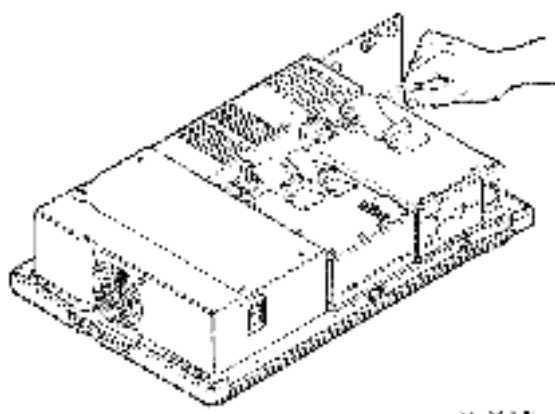

Figure 2-49 Sliding Out I/O Board
6. Slide the I/O board straight out (Figure 2-49).